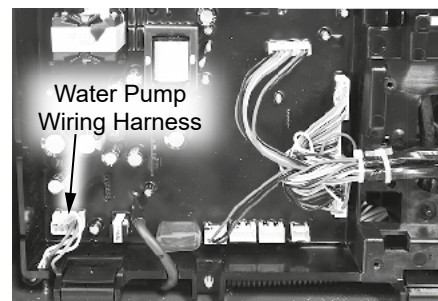

Figure 3 - Water pump wiring harness location
- 12** Locate the two (2) screws at the bottom of the cabinet cover. Use a Phillips screwdriver to remove the screws. Place screws aside in a safe place for reinstallation.
- 14** Locate the water pump wiring harness on the control board panel as shown in Figure 3. Disconnect and route the wiring out of the way for ease of removing the water pump.